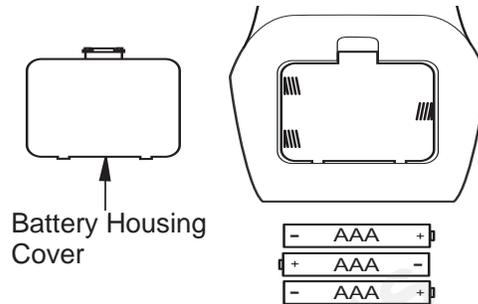

Figure 17 - Battery Install Hand-Held Remote Control
1. Remove battery housing cover from back of hand-held remote (see **Figure 17**).